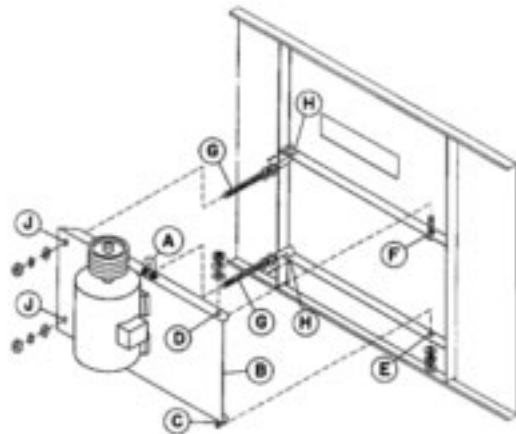

Figure 14 – External Motor Installation
1. Study Figure 14 before installing the motor base on the unit.